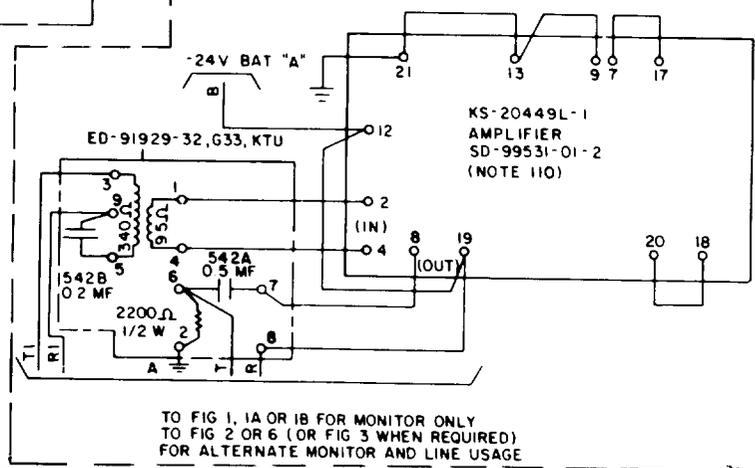

FIG 5
- 111 WHEN FIG 5 IS USED THE "A1" GROUND SHOWN REPLACES THE NORMALLY PROVIDED "A1" GROUND